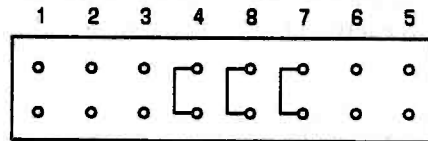

Figure 3-34. Seagate ST-225 20-MB Hard Disk With WD Controller, DIP Switch (Jumper) Settings
17. The jumper settings (SW1) for the 20-MB Seagate ST-225 HDU with WD Controller are shown in Figure 3-34.